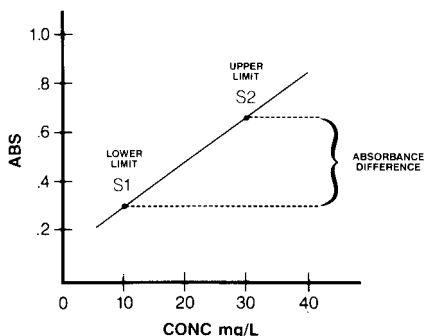

FIGURE 4
12. Press the **RIGHT ARROW** key. The left digit and the S2 annunciator will flash. Use the arrow keys to enter the correct absorbance difference. See Figure 4. Be sure to observe the polarity sign. If a negative number appears and you wish to edit a positive number, use the **UP ARROW** key to step through the negative numbers to reach the positive.